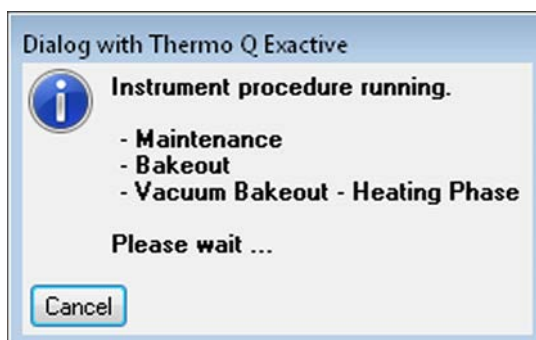

Figure 5-10. Message box: Vacuum Bakeout active
5. The message box disappears and the baking procedure starts. The instrument indicates the active bakeout procedure by a flashing Vacuum LED at the front side. Additionally, the Q Exactive Tune software displays a corresponding message box. See Figure 5-10.